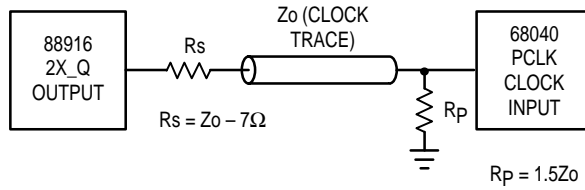

Figure 3. MC68040 PCLK Input Termination Scheme
- The pulse width spec for the Q and 2Q_X outputs is referenced to a V_{CC}/2 threshold. To translate this down to a 1.5V reference with the same pulse width tolerance, the termination scheme pictured in Figure 3 must be used. This termination scheme is required to drive the PCLK input of the 68040 microprocessor with the 88916 outputs.